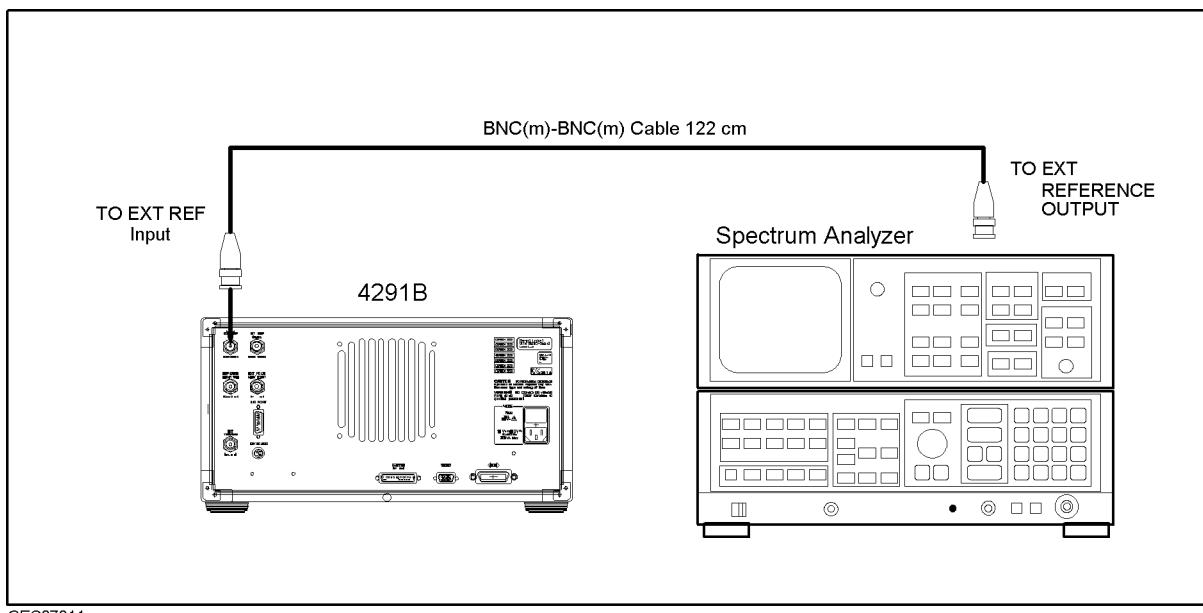

Figure 7-11. EXT REF Test Setup
- a. Connect the equipment as shown in Figure 7-11. Then check that the “ExtRef” message appears on the display. If Option 1D5 is installed in the 4291B, connect the cable between the EXT REF Input connector and REF OVEN (Opt 1D5) connector.